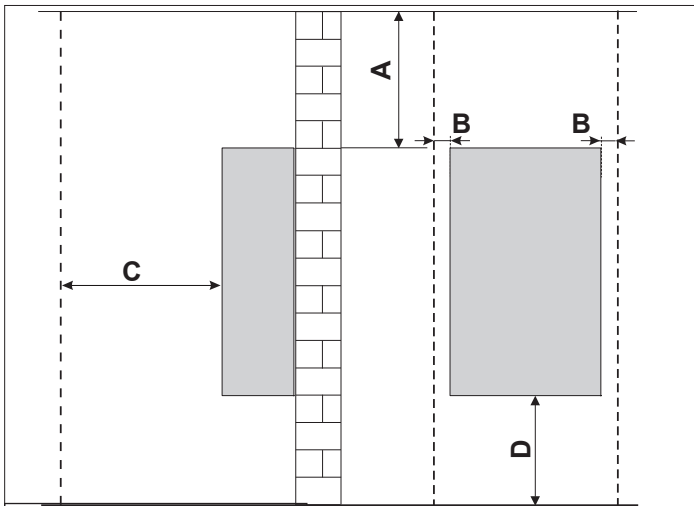

Figure 4 - Minimum Clearances
**NOTE:** If you do not provide the minimum clearances shown in Figure 4 and Table 5 it might not be possible to service the boiler without removing it from the space.